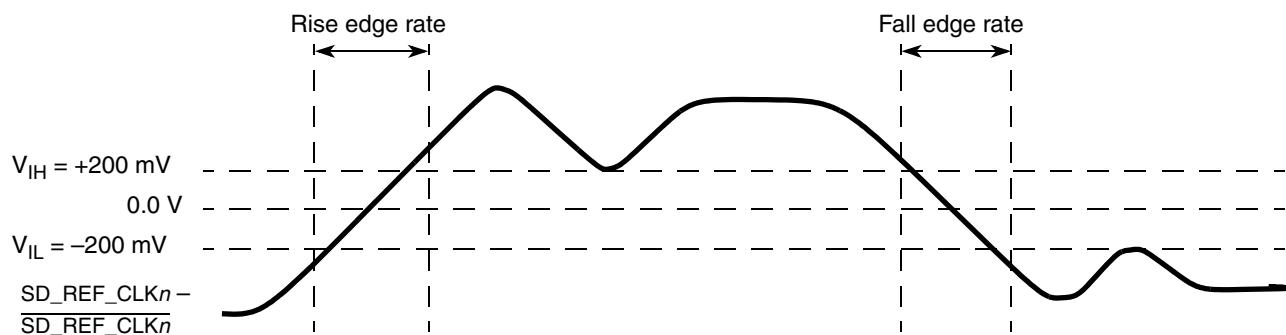

Figure 41. Differential measurement points for rise and fall time
waveform is not referenced to ground. See Figure 41, “Differential measurement points for rise and fall time,” as an example for differential waveform.
- Measured from -200 mV to +200 mV on the differential waveform (derived from SD_REF_CLK n minus $\overline{\text{SD_REF_CLK}}_n$). The signal must be monotonic through the measurement region for rise and fall time. The 400 mV measurement window is centered on the differential zero crossing. See Figure 41.